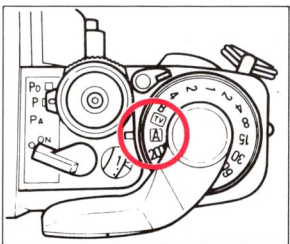

Fig. 40
2. Set the Shutter Speed Dial to "A". (Fig. 40)